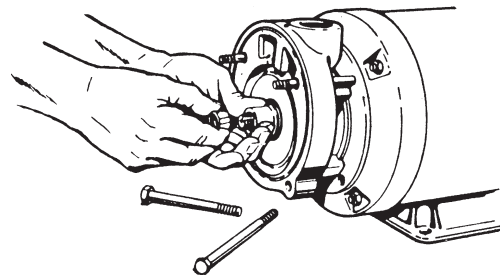

FIGURE 19
- j. While maintaining inward pressure on the hub, install the impeller nut. Refer to Figure 19.